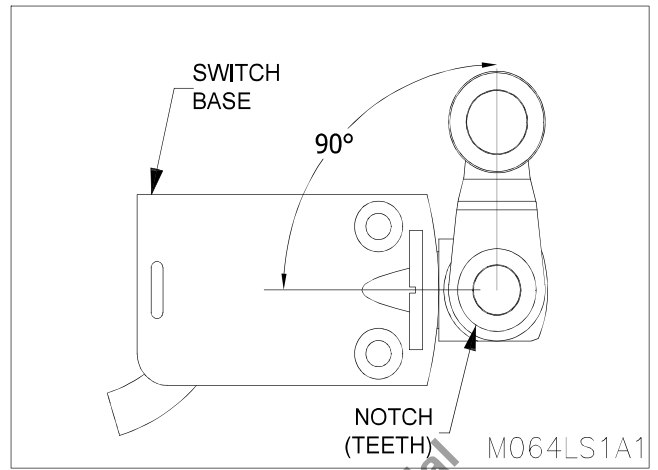
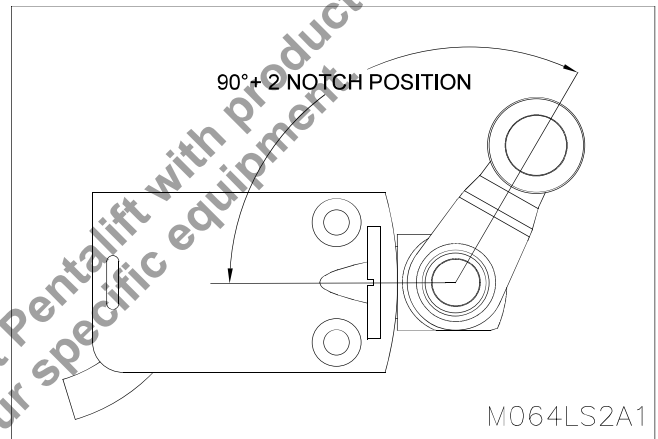

Figure 44: Limit Switch Arm at 90°
Figure 45: Limit Switch Arm at 90° + 2 notch position
- Make sure the limit switch is configured as shown in “Figure 44: Limit Switch Arm at 90°” on page 46 which shows the starting point of the adjust. From this, rotate the arm two notches as shown in “Figure 45: Limit Switch Arm at 90° + 2 notch position” on page 46.
- **Switch head rotation:** Make sure the switch head is rotated 90 degrees (See “Figure 44: Limit Switch Arm at 90°” on page 46) from the base of the switch. Then, rotate the head 2 notch position in clockwise direction (See “Figure 45: Limit Switch Arm at 90° + 2 notch position” on page 46).